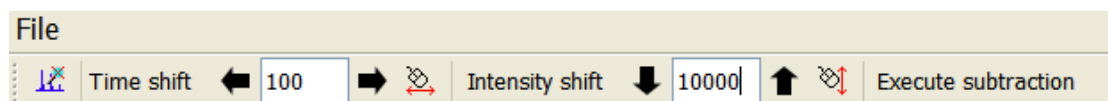

Figure 11.4: The Compare/Subtract Window Tool Bar
- a Tool Bar with various icons and controls, shown in Figure 11.4;